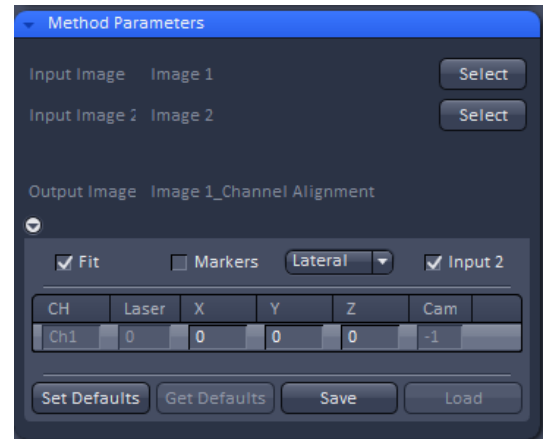
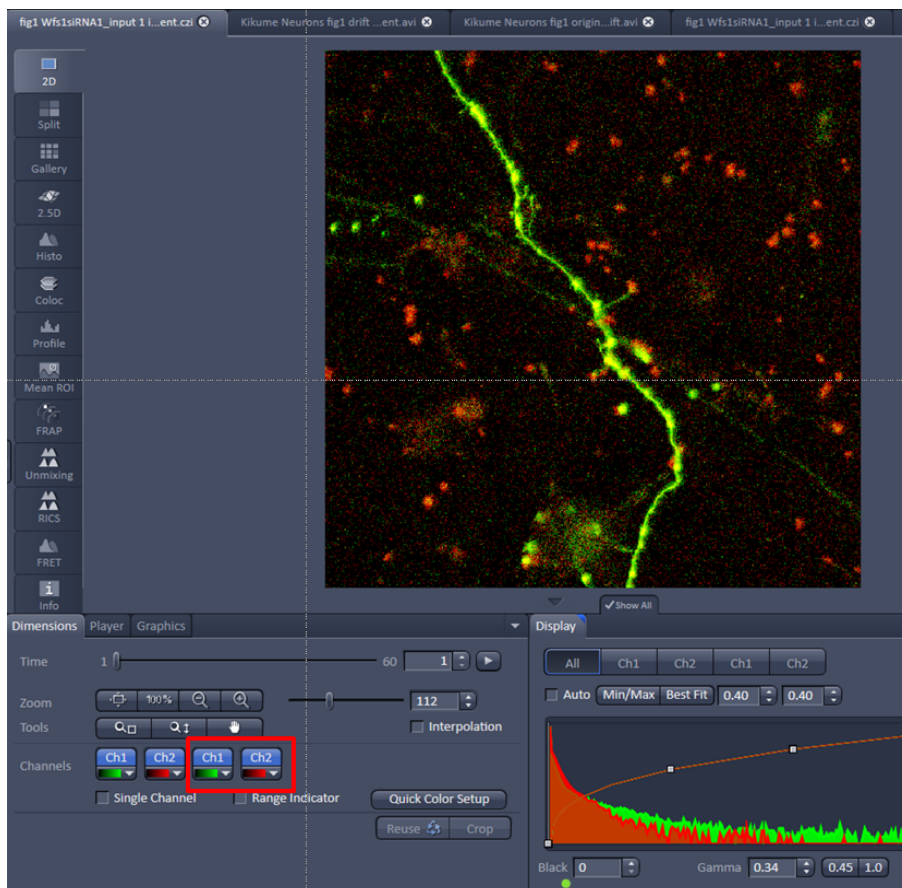

Fig. 399 Methods Parameter of the Channel Alignment Processing tool
Fig. 400 The boxed channels represent the drift corrected ones.
- Apply drift correction. In the **Channel alignment** Processing function select the reference time series as **input 1** and the original time series as **input 2**. Check the **Fit** box and the **Input 2** box and leave **Marker** box unchecked (Fig. 399). Select **lateral** from the **correction mode selection** drop down menu. Press **Apply**. The resulting image will have a doubling in channels. The first half represents the original data set, the second half the drift corrected data set (Fig. 400). The number of channels depend on the number of channels of the original time series.